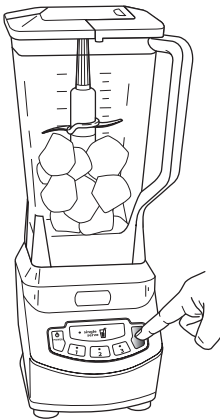

Fig. 6
- 10 Select the speed that best suits your needs. (Fig. 6)
- 9 Turn the cup upright and remove the Nutri Ninja Blade Assembly by twisting the blade assembly **counter-clockwise**. **(Fig. 6)**